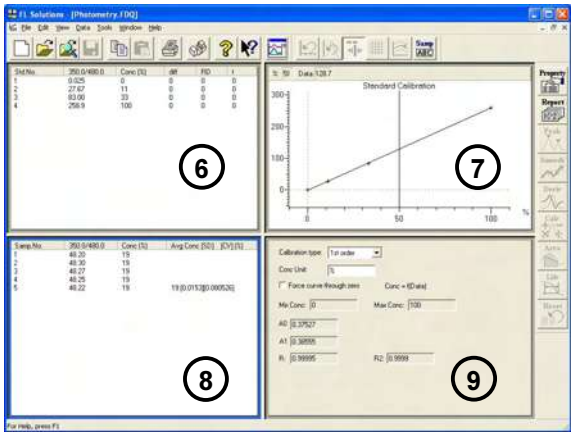

Fig. 1-38
- On start from measurement for a calibration curve, a window as shown in Fig. 1-38 will appear.